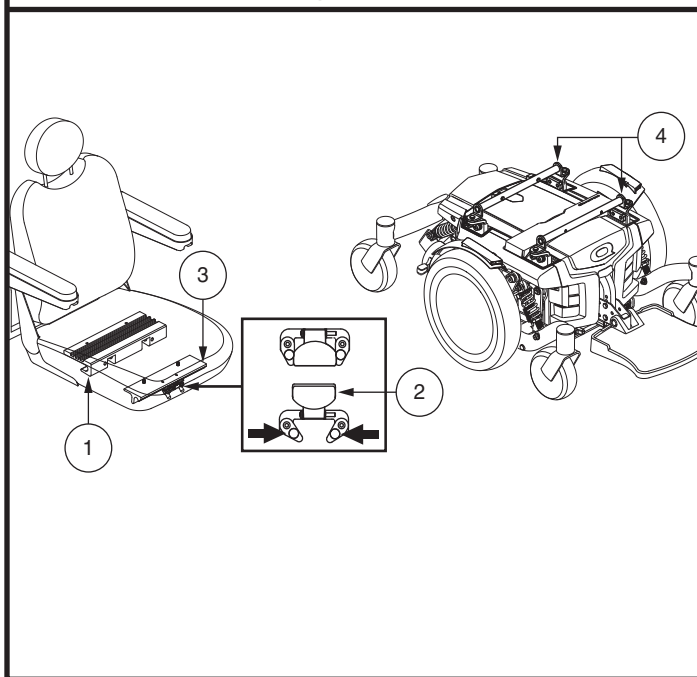

Figure 7. Universal Mounting System and Contour Seat
It may be necessary to install the seat either prior to initial operation or after transporting your power chair. Contour seats are attached to the power base with the Universal Mounting System (UMS). The UMS consists of universal parts that may be attached to the seat, regardless of seat width or seat depth. The two main components are aluminum extrusions mounted to the seat base. These extrusions attach to a pair of trapeze bars that are mounted to the power base. **See figure 7.**
1. Tilt the seat back and slide the rear extrusion onto the rear trapeze bar. **See figure 7.**
4. Flip up the seat latch safely. **See figure 7.**